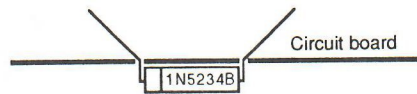

Figure 4-13 To prevent new parts from falling out when you lay the computer back down, pull up on the leads and bend them approximately 45 degrees.
9. To prevent new parts from falling out when you lay the computer back down, pull up on the leads and bend them approximately 45 degrees as shown in Figure 4-13. If you bend them all the way down to 90 degrees, you'll have a heck of a time getting them back out again, should that ever become necessary. If you unscrewed the board, reposition it, reinstall any wiring harnesses you disconnected and retighten the screws.